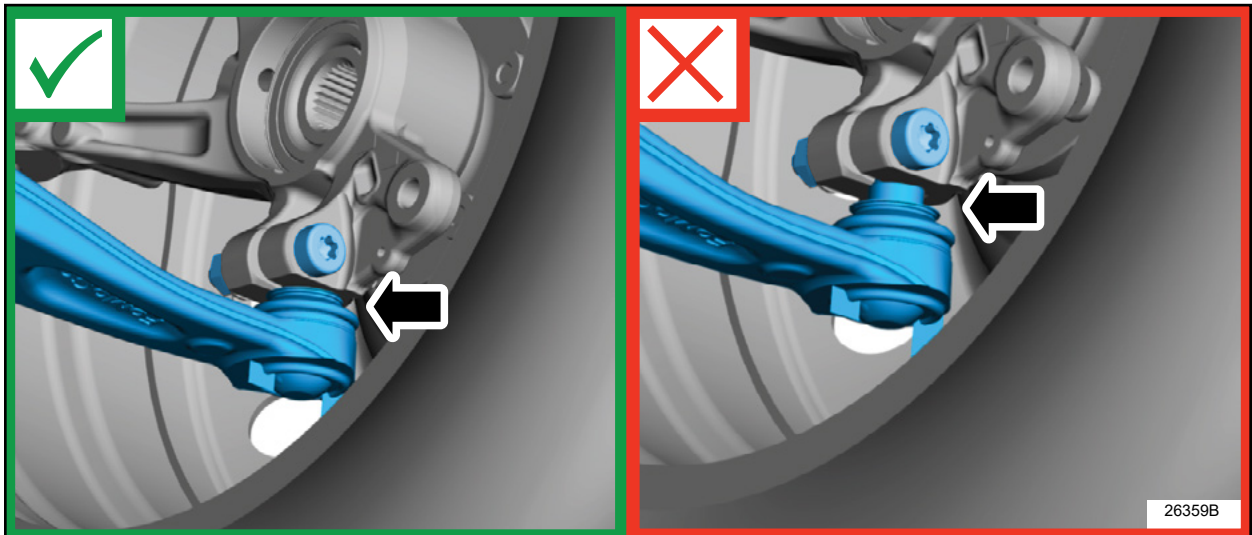

FIGURE 3
- **For Maverick and Bronco Sport (Excluding Sasquatch):** Confirm both the pinch bolt and nut are installed. See Figure 3.
- **For Bronco Sport (Sasquatch):** Confirm the pinch bolt is installed (not built with a nut). See Figure 3.
- c. **Boot Contact:** The rubber ball joint boot is in direct contact with the lower surface of the steering knuckle. See Figure 3.